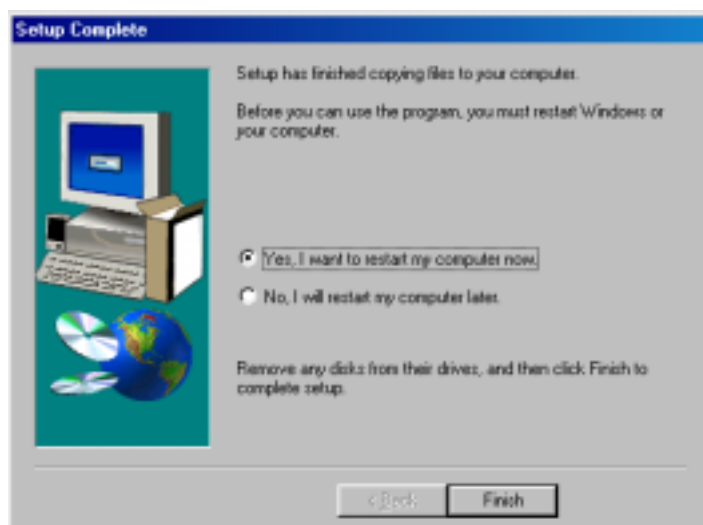

Figure 14: completing installation and restarting the system
13. Click on 'Finish' to restart your system. See figure 14.